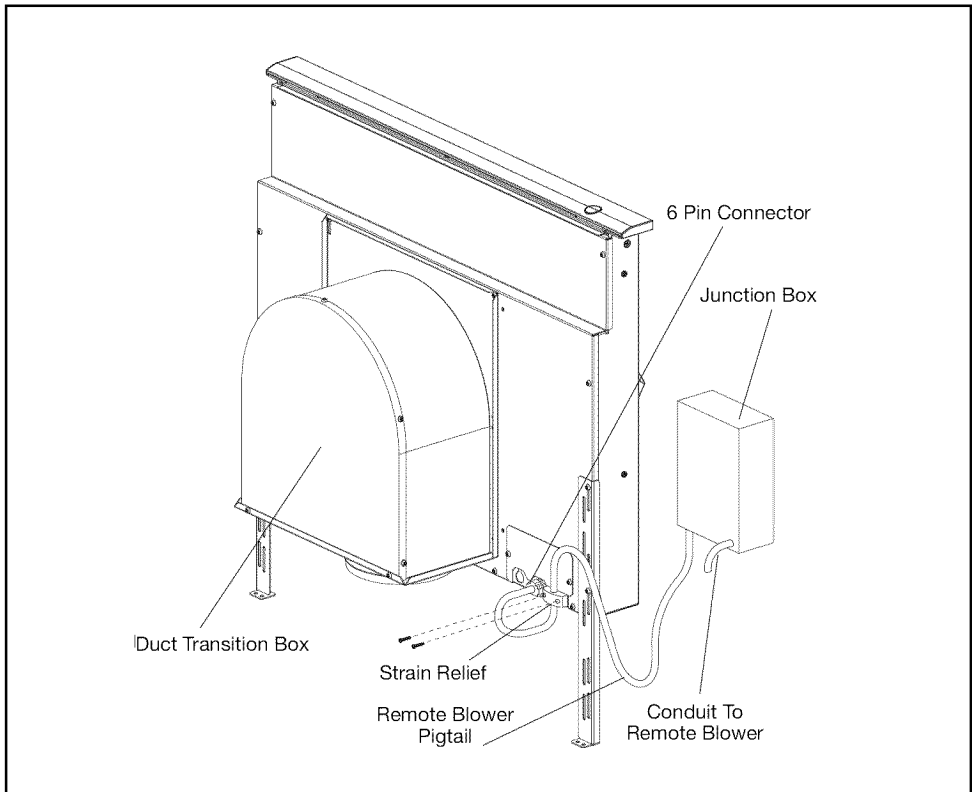

Fig. 10 – Remote Blower
**Remote or Inline Blower** (see Figures 10 and 11 for further detail):
- A. Remove junction box cover and connect conduit with 5 wires from remote blower. Hook up wires per Wiring.Fig. 10. Replace junction box cover.